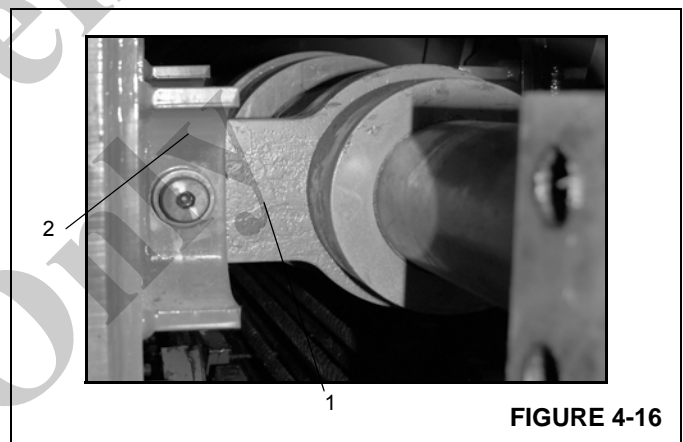

FIGURE 4-16
2. Remove the two bolts and bushings securing the cylinder inner rod (Figure 4-16, 1) to the rear of the inner mid (Figure 4-16, 2).